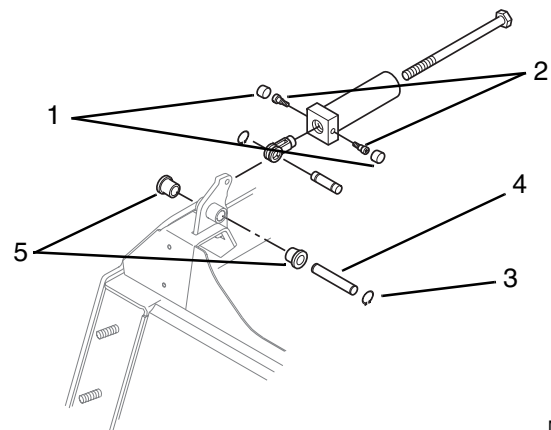

Figure 9-29 Operator Protective Structure Shock Absorber
10. Disconnect shock assemblies by removing the caps (Fig. 9-29, 1) and shoulder screws (2) from both shock assemblies.
12. Remove two retaining rings (Fig. 9-29, 3) from both pivot pins (4) and remove the pins. The plastic bushings (5) can be removed, inspected, and replaced if required once the structure has been removed.